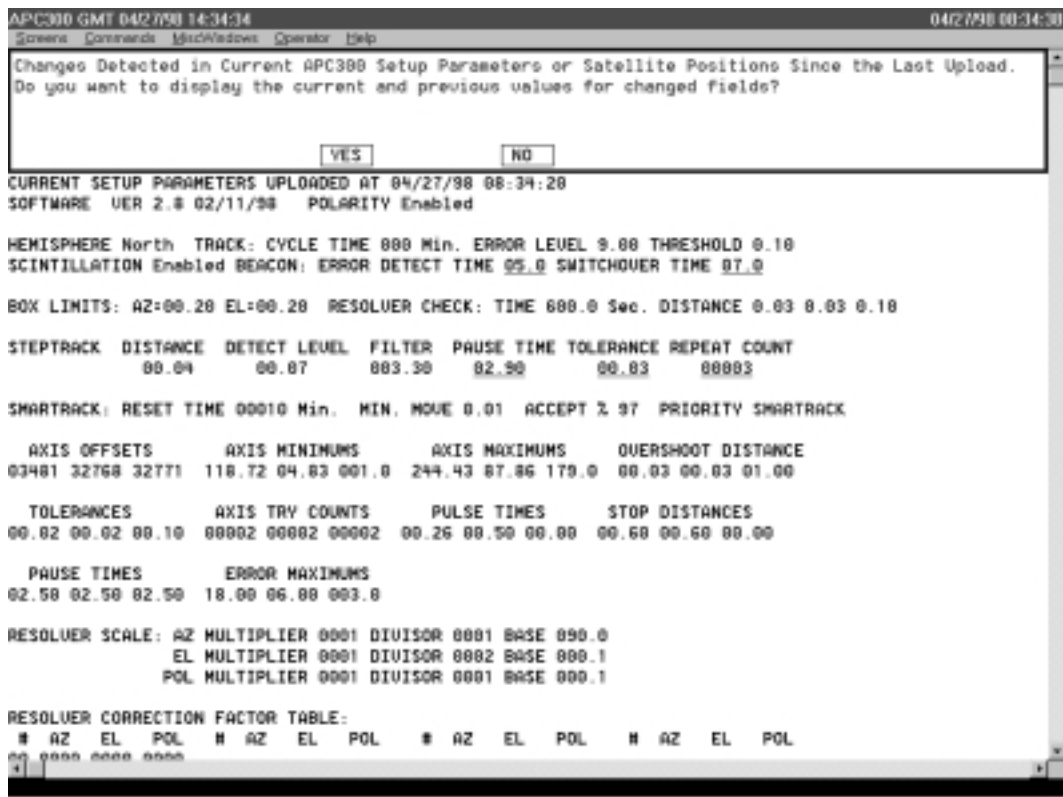
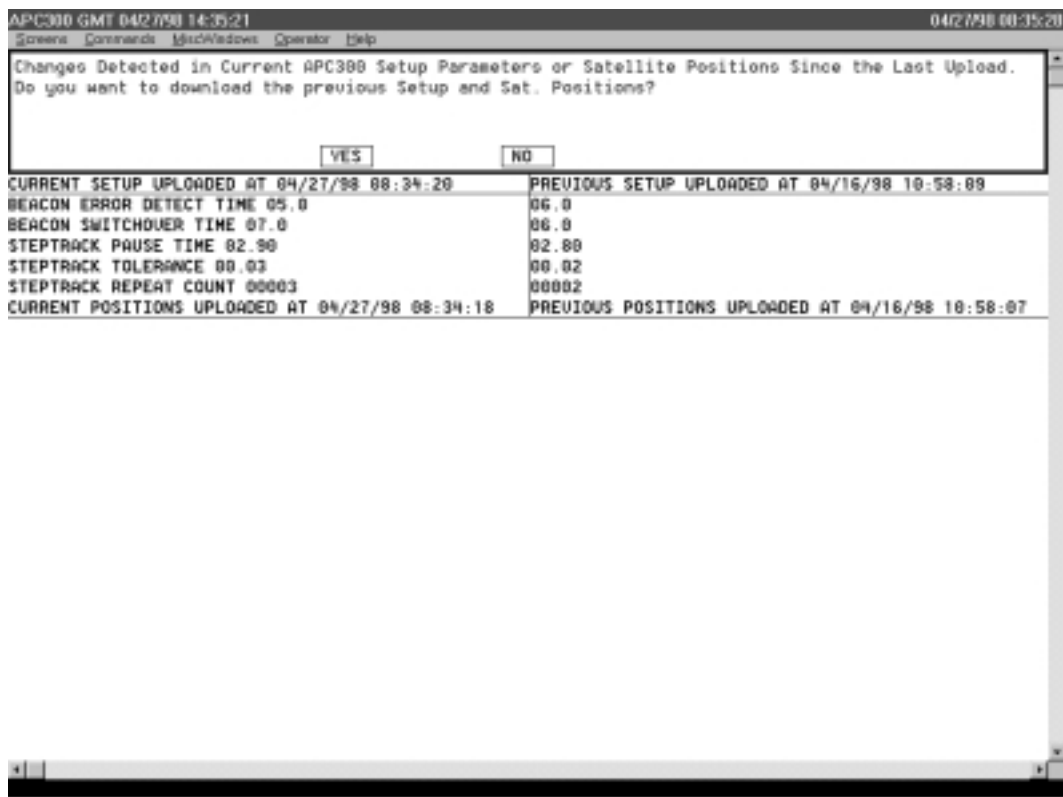

Figure 4.
Figure 5.
9. If changes are detected in the satellite positions or setup parameters since the last time that they were uploaded, then all data is displayed on the screen with changed fields underlined and vertical scrolling enabled. An example is shown in figure 4. The operator is asked whether he wants to display only changed fields with current and previous values. If the operator clicks the “Yes” box then changed fields are displayed with current values on the left side and their previous values on the right side of the screen as shown in figure 5. The operator is then asked whether he wants to download the previous satellite positions and setup parameters to the APC300. If the answer is “Yes”, then the previous satellite positions and setup parameters are downloaded to the APC300 and the startup sequence is ended. If the answer is “No”, the start up procedure is ended.